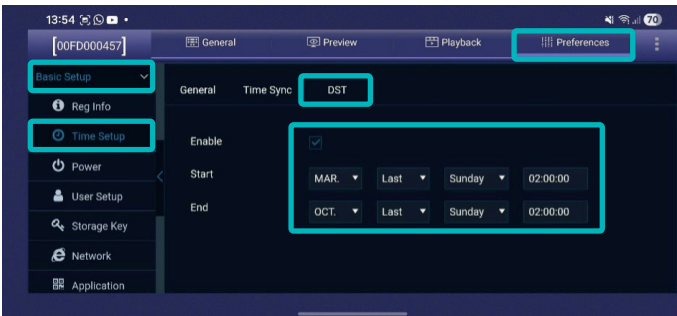

Fig. 6 If settings are changed, you must scroll down and select 'Save' to confirm.
- Configure DST if required (Fig. 6).